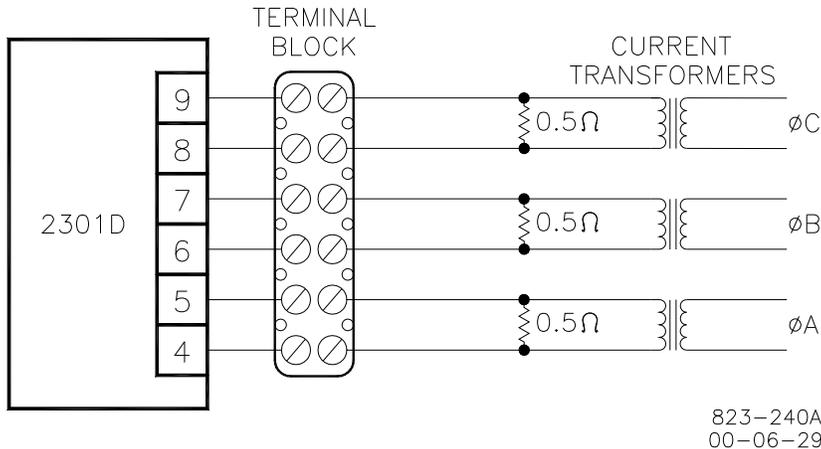

Figure 3-68. Temporary Wiring for Transformer Phase Correction
**HIGH VOLTAGE**—Never disconnect any wire attached to load sensor terminals 4 through 9 when the prime mover is running unless temporary 0.5 Ω, 20 W resistors are installed as shown in Figure 3-68 and all load is removed. The current transformers can develop dangerously high voltages when open circuited while the prime mover is running.
1. Go to the **A\*\*MONITOR \*\*** sheet and observe **06 LOAD (kW)** and **S\*\*LOAD SENSOR SET\*\***, **07 MONITOR/LOAD SIGNAL (V)** to measure the load sensor output. The displayed values are not yet calibrated to read Kilowatts, but are used here for reference.
**HIGH VOLTAGE**—The current transformers can develop dangerously high voltages. Do not disconnect a current transformer while the prime mover is running unless temporary  $0.5\ \Omega$ , 20 W resistors are installed as shown in Figure 3-68 and all loads is removed.
**HIGH VOLTAGE**—The current transformers can develop dangerously high voltages. Do not disconnect a current transformer while the prime mover is running unless temporary 0.5  $\Omega$ , 20 W resistors are installed as shown in Figure 3-68 and all loads is removed.